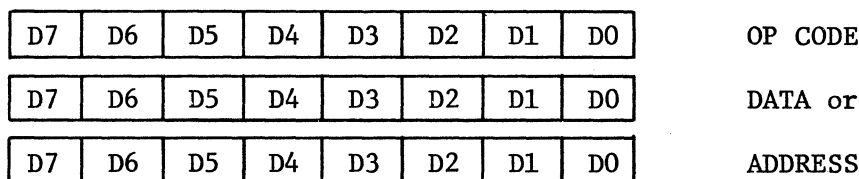

Figure 2-4. MPU Instruction Format
2.2.2.3.1 Instruction Cycle. An instruction cycle includes both the fetching of the instruction from memory and the execution of the instruction. Each instruction may contain one, two, or three 8-bit bytes. Multiple byte instructions must be stored in successive memory locations. Figure 2-4 illustrates the three instruction formats. The actual bit configuration of the op code is not important to the understanding of the terminal processor operation.